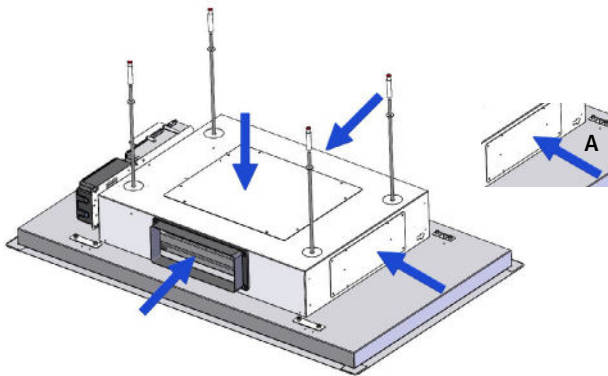

**FIG.5**
- › Screw the threaded bars provided into the plugs (Fig.5). The threaded bars are 250mm